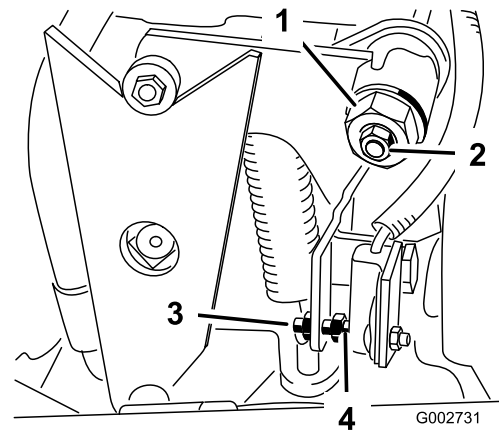

Figure 32
4. Loosen the locknut on the traction adjustment cam (Figure 32).
5. Start the engine and rotate the cam hex (Figure 32) in both directions to determine the mid position of the neutral span.
3. Adjust the screw until the air gap is .060 inches \pm .030 (Figure 32).